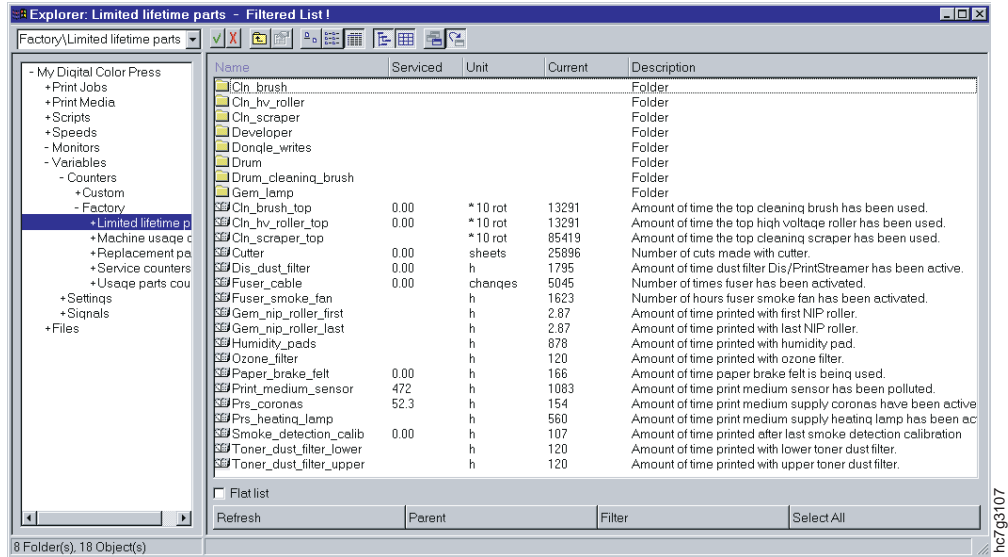

Figure 227. Limited Lifetime Parts Counters Window
3. Click again on **Limited lifetime parts** and you will see the counters in the list view or right side of the **Limited lifetime parts** window, as shown in Figure 227 on page 261. The counters are described in Table 79 on page 261.